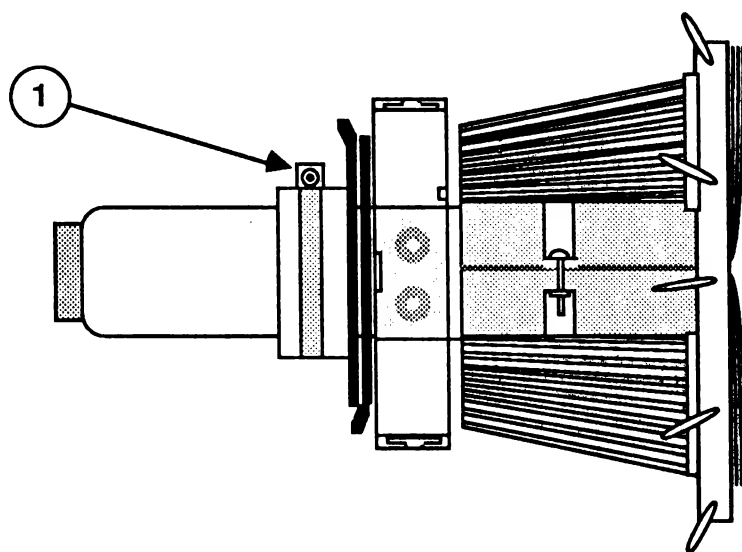

FIGURE 4
1. If using the Apple II Peripherals Diskette, select "Monitor Tests" from the menu; then select "Test #1" (Dot Pattern). If using the ROM card, select Video Pattern (V).
2. Locate the yoke on the stem of the CRT (see Figure 4).
3. Locate and loosen the Phillips screw that holds the C-ring on the yoke. The screw is toward the back part of the yoke (see Figure 4, #1). Do not remove the screw; just loosen it enough to make the yoke mobile.